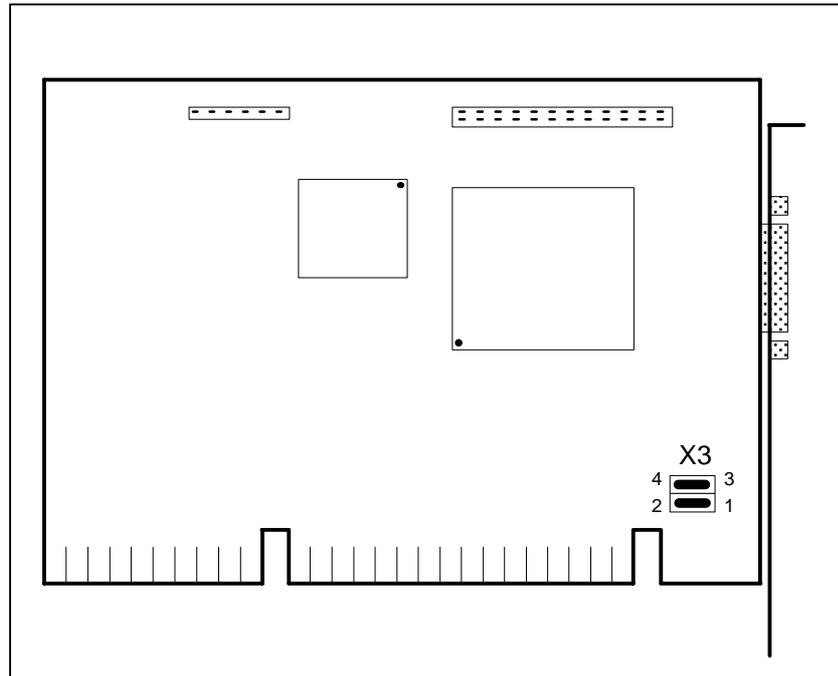

Fig. 4.3 The CP 1413 communications processor (block diagram)
- Jumper settings** Merely the configuration register need to be set on the module (X3 jumpers). Fig. 4.3 shows the location of these two jumpers. The configuration register has been preset to the hexadecimal number 03E0H.